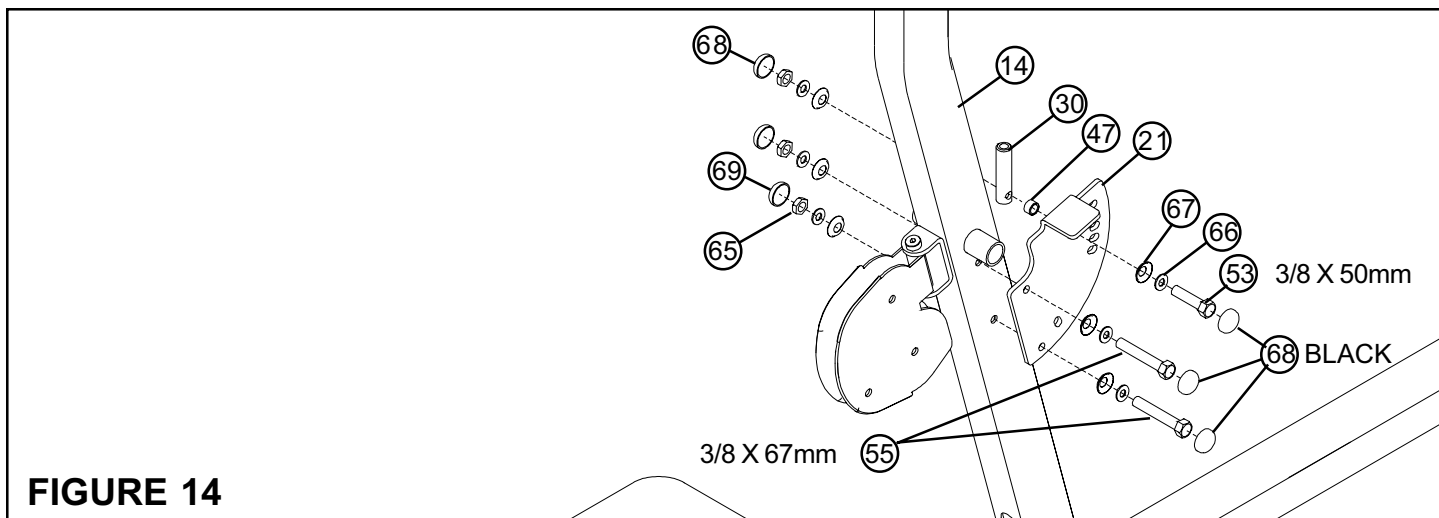

FIGURE 14
- **SECURELY** assemble the LAT/LOW ADJUST PLATE (21) to the LAT/LOW FRAME (14) using two BLACK RH CAPS (68), two RH CAPS (69), two 3/8 X 67mm BOLTS (55), four 3/8 SAE WASHERS (66), four 3/8 RH WASHERS (67) and two 3/8 LOW HEIGHT LOCK NUTS (65) as shown in FIGURE 14.
- Assemble the 3/4 X 3-1/8 TAPPED SHAFT (30) to the LAT/LOW ADJUST PLATE (21) using two BLACK RH CAPS (68), one 3/8 X 50mm BOLT (53), two 3/8 SAE WASHERS (66), two 3/8 RH WASHERS (67), one 3/8 X 1/2 SPACER (47) and one 3/8 LOW HEIGHT LOCK NUT (65) as shown in FIGURE 14. **(NOTE: Tighten connection enough to remove play, yet allowing TAPPED SHAFT to rotate freely.)**